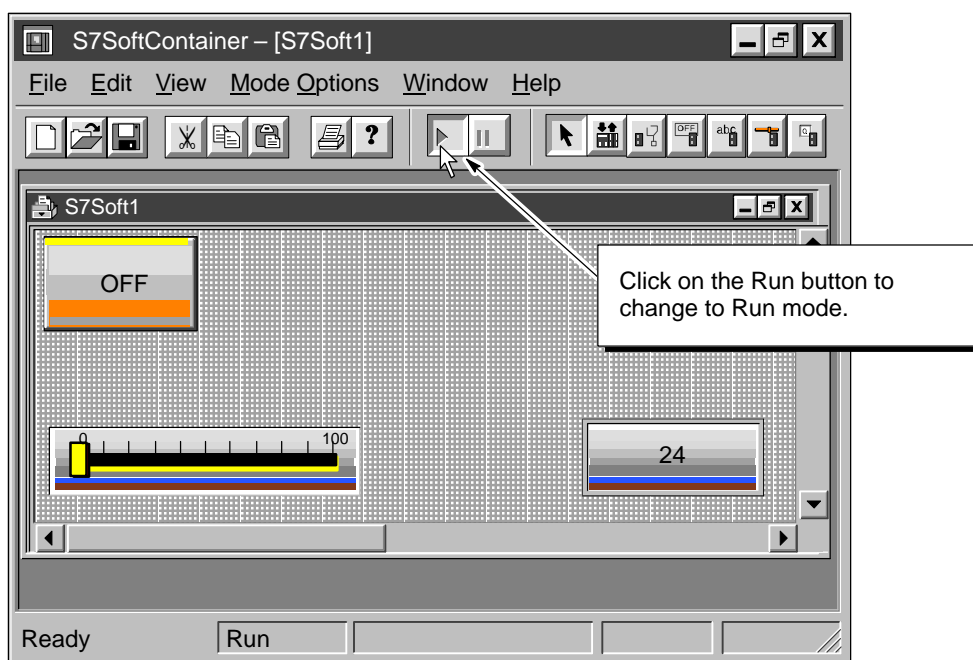

Figure 8-5 Changing the Container to Run Mode
2. Click on the Run button to change from Design mode to Run mode. See Figure 8-5. The status bar shows that the container is in Run mode.